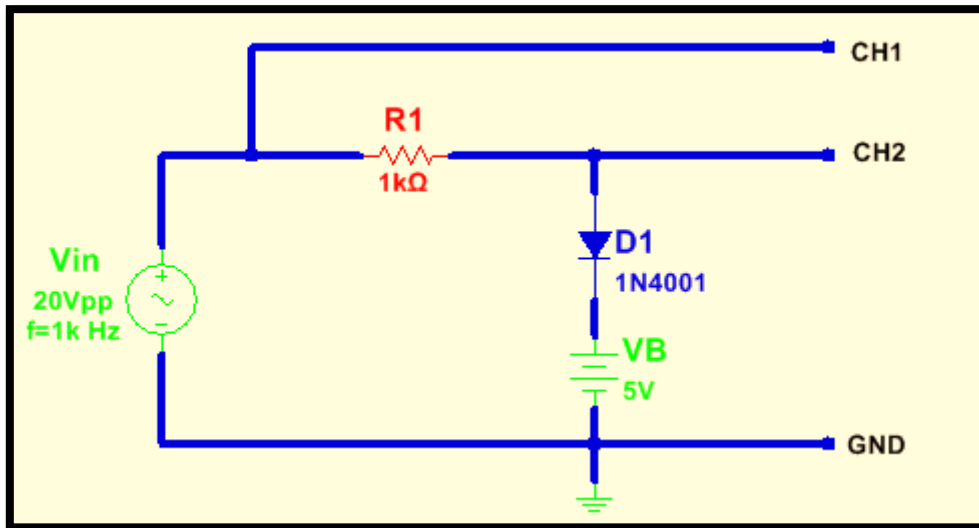

Figure 8: Practical Biased Parallel Clipping Circuit
2. Connect the biased parallel clipping circuit shown in Fig.8, and apply a 20Vpp sinusoidal input waveform with frequency of 1 kHz at the input. Display and sketch the input and the output waveforms.